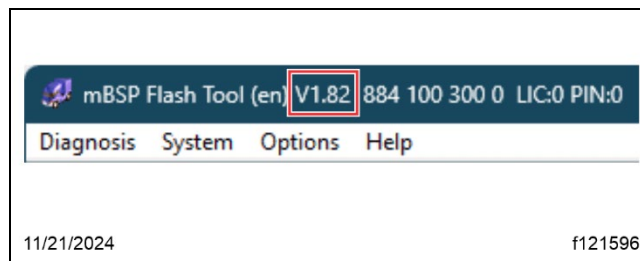

Fig. 20, mBSP Flash Tool Software Version
- An mBSP flash tool software version 1.82, as shown in **Fig. 20**, is required to perform this ABS ECU software update procedure.